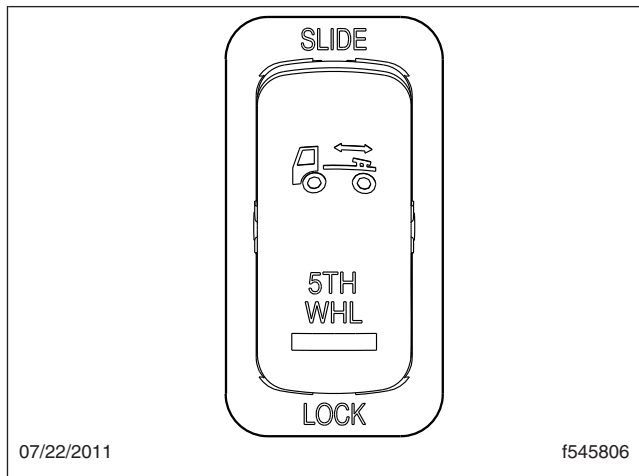

Fig. 18.15, Air Slide Switch
1. Press the top half of the air-slide switch to enable the air-slide feature. See Fig. 18.15.